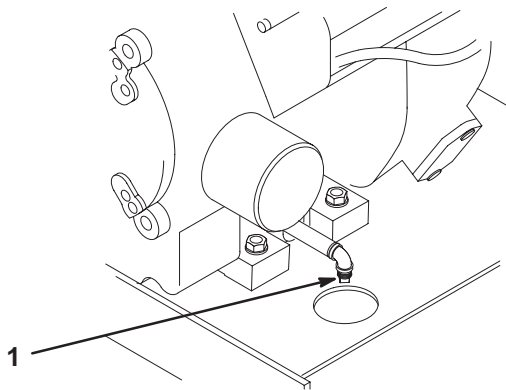

Figure 27
3. Place a pan below the oil drain. Remove the oil drain plug (Fig. 27).